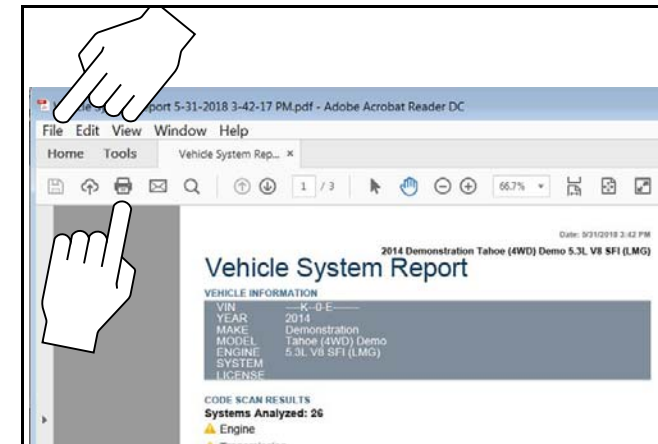

Figure 4-20
4. From the PDF viewer use the menu or toolbar print options to print the file (Figure 4-20).